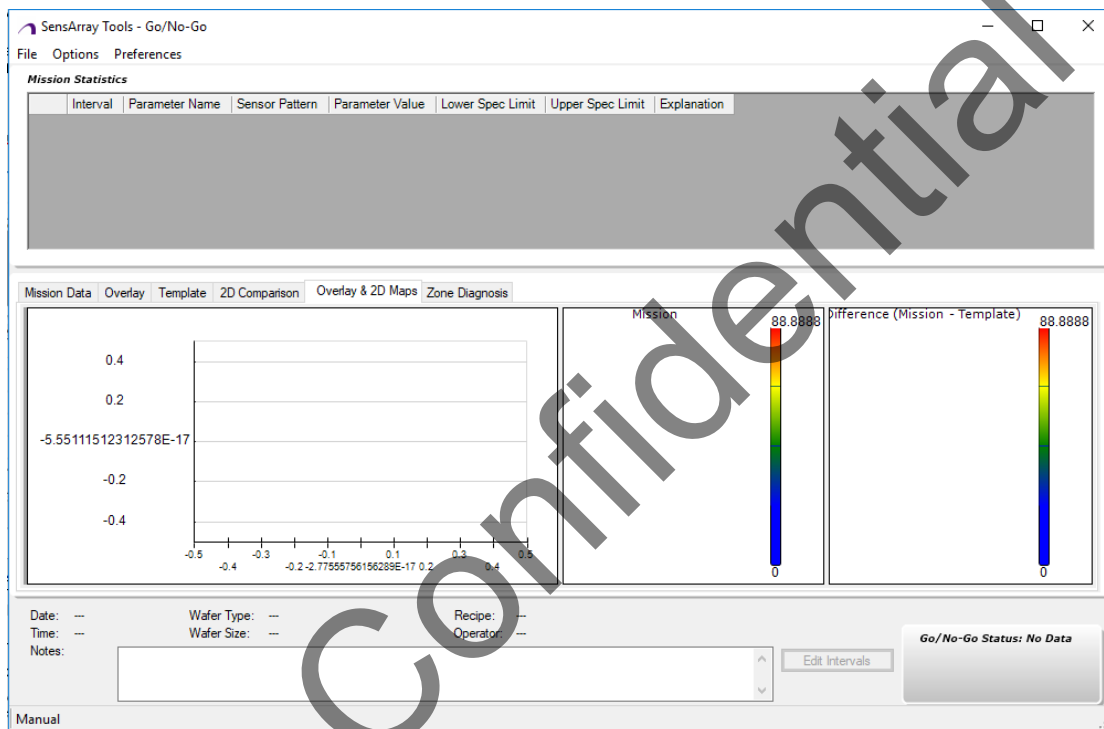

Figure 6-12 Go/No-Go Home page
1. Click **Go/No-Go** on the **SAT** launcher UI. You can see the **Go/No-Go** window opens, as shown in Figure 6-12.